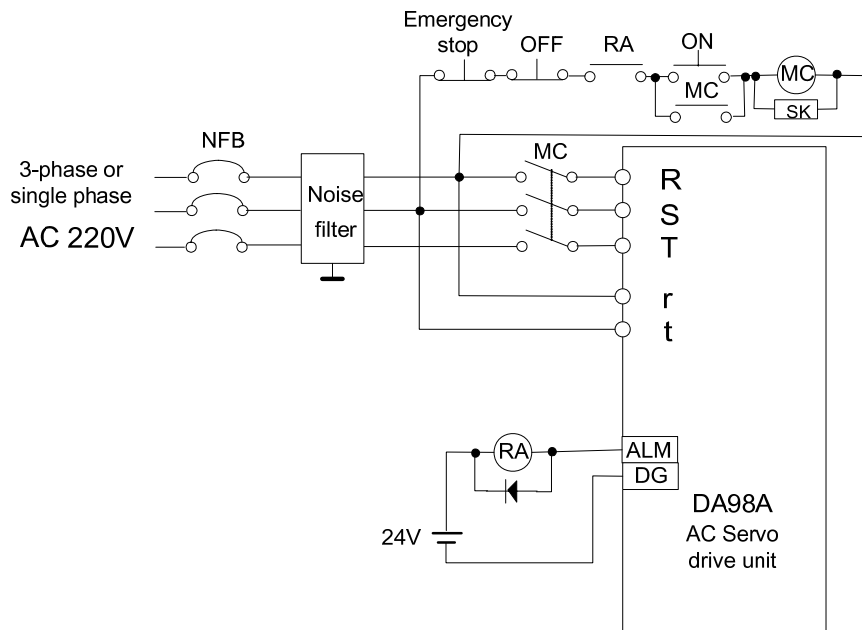

Fig. 7.1 Power supply wiring diagram
- An emergent stop circuit should be connected to cut off the power supply immediately if there is a fault in the system. (Refer to Fig. 7.1).
Refer to Fig. 7.1 for power supply connection and connect it by following steps: